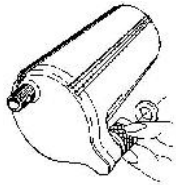

Figure 1
2. Insert the white rubber inlet connector washer into the silver-connecting ring. Install the unit by holding it in a 9 o'clock position while finger-tightening the silver ring on the shower pipe. Using a pair of pliers, rotate the silver connector ring approximately ½ turn clockwise while turning the unit to the 12 o'clock position (See Figure 1).